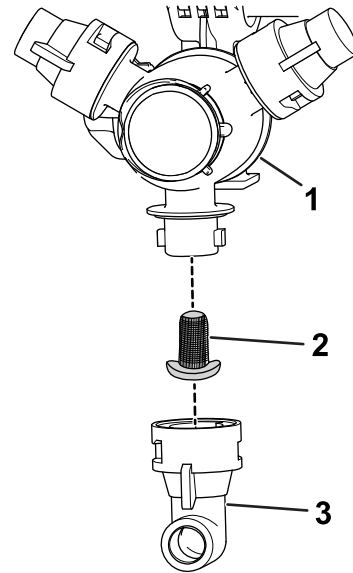

Figure 61
2. Remove the nozzle from the spray turret (Figure 61).
3. Remove the old nozzle filter (Figure 61).
4. Install the new nozzle filter (Figure 61).
5. Install the nozzle onto the spray turret (Figure 61).